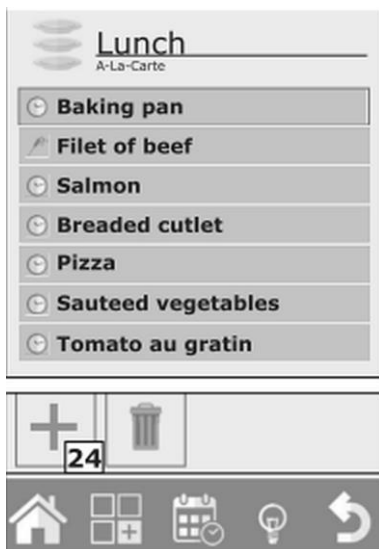

Fig. 31
2. Press the '+' key (24, Fig. 31).
- Press the '+' key (24, Fig. 31) to continue and add further dish names.